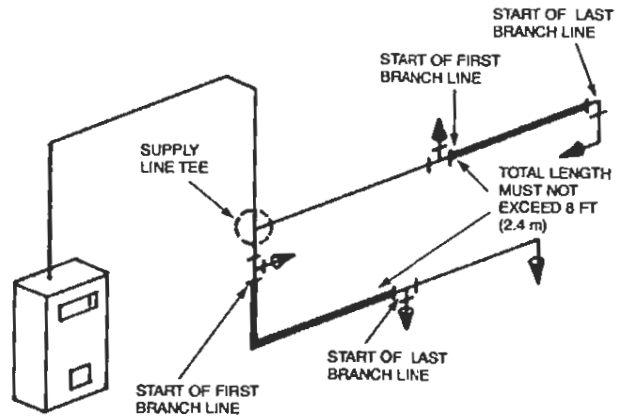

FIGURE 111
- 1. This option allows for duct protection, plenum protection, appliance protection, or any combination. However, only one (1) duct nozzle may be used, either a 1W or a 2W, nozzle.
- 4. The pipe length between the start of the first branch line and the start of the last branch line must not exceed 8 ft (2.4 m). When the supply line is split, the **combined length** of both legs of the supply line (start of first branch line to start of last branch line) must not exceed 8 ft (2.4 m). See Figure 111.